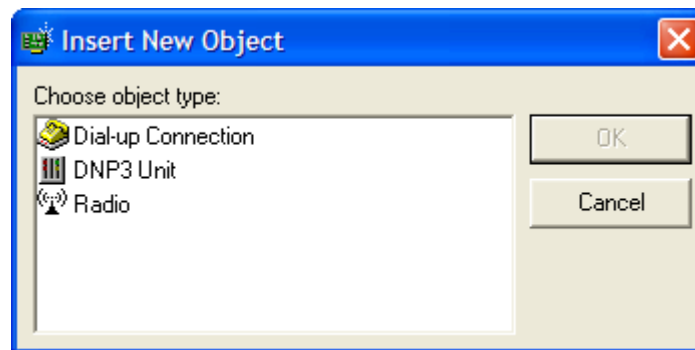

Figure 40 - Insert New Object
- The **Insert New Object** window (Figure 40) appears.